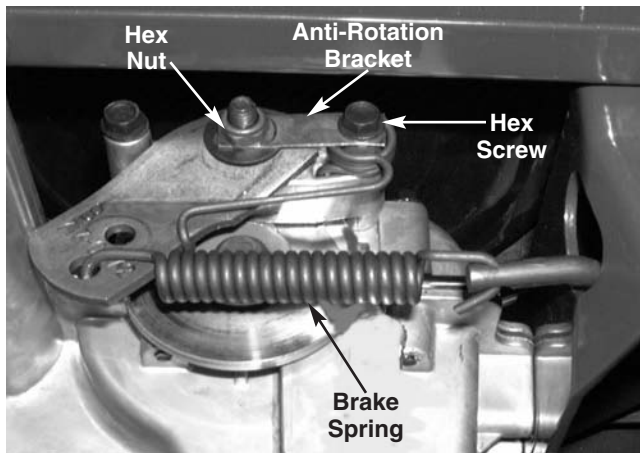

FIGURE 5.
- 13). Remove the locking hex nut from the brake actuation arm on the transmission. See figure 5.
- 14). Loosen (DO NOT REMOVE) the hex washer head self-tapping screw that secures the anti-rotation bracket to the brake assembly using 3/8 wrench. See figure 5.
- 17). Remove the brake spring from the brake actuation arm. See figure 5.